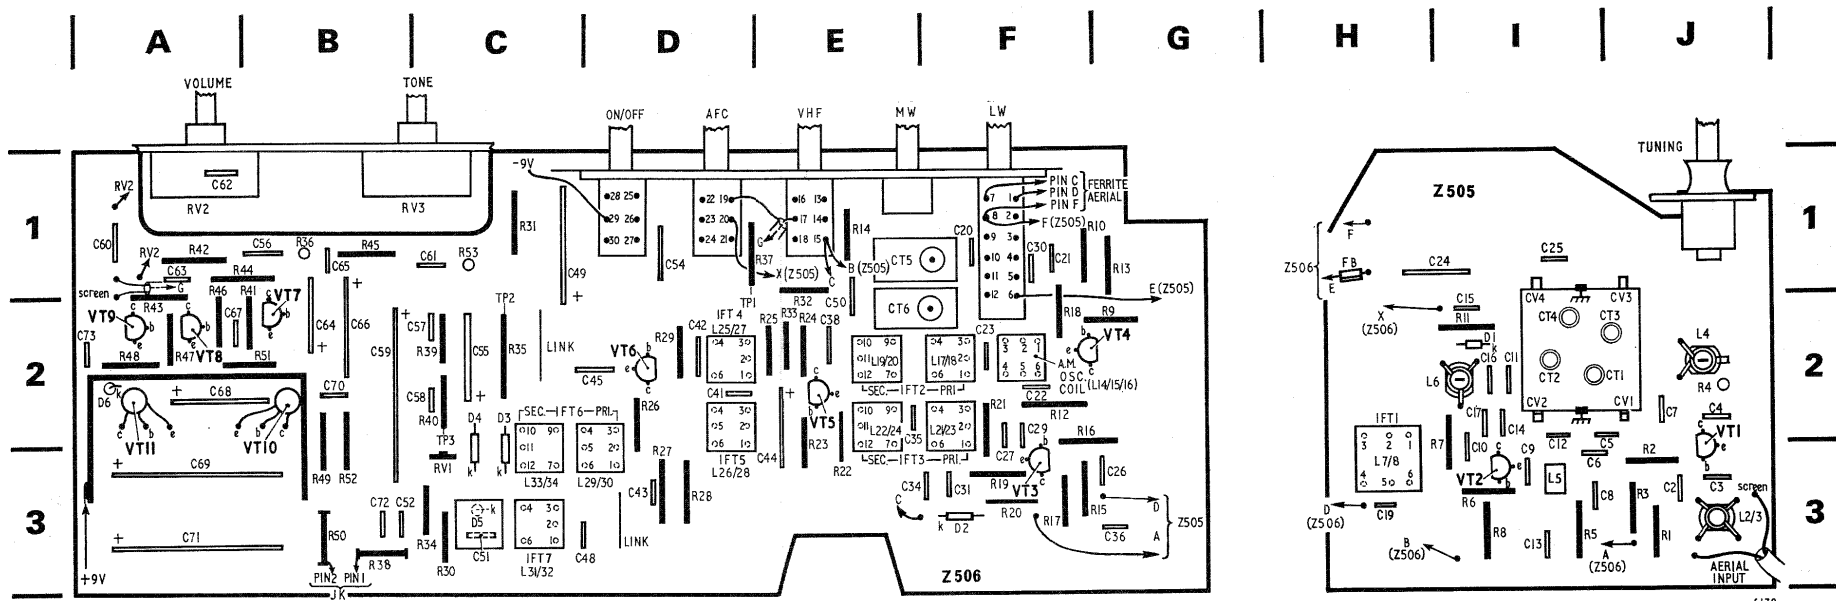
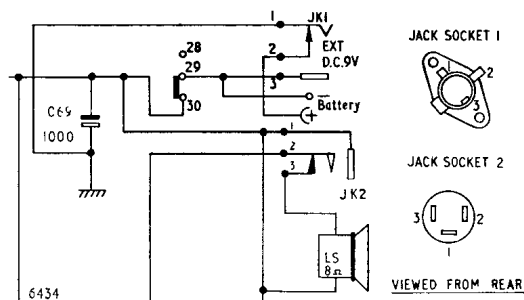

Fig. 3 Component layout
Fig. 1. Circuit modification showing external power supply Jack JK1.
* Use this column in conjunction with Fig 3. on pages 3 and 4.
Details as Fig. 1, TP1805.
- 4 Circuit diagram Fig. 3, external power supply jack added, see scrap view Fig. 1, adjacent.